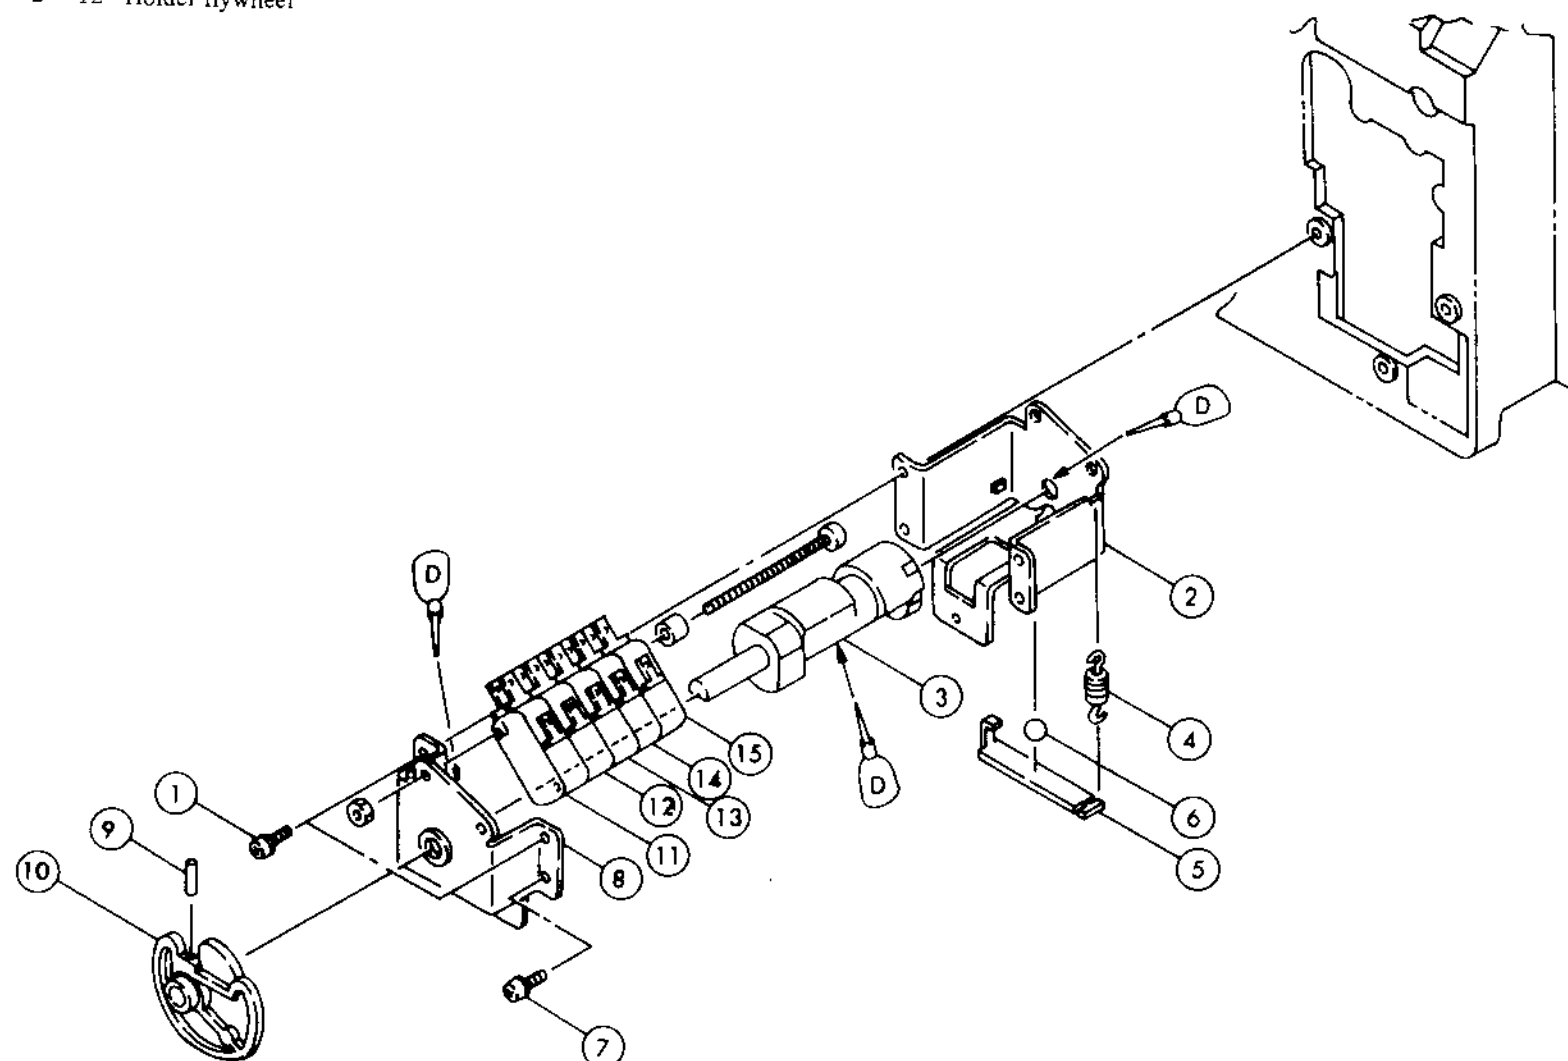

Fig. 54
1. Remove ① × 3 pcs., and take out assy parts of ② while removing the connecting terminals.
2. Remove in the order of ④, ⑤ and ⑥, and take out ⑧ by removing ⑦ × 2 pcs.
3. The spiral pin of ⑨ is $2.5\phi \times 14$ mm.
4. For further disassembly, refer to Fig. 54.